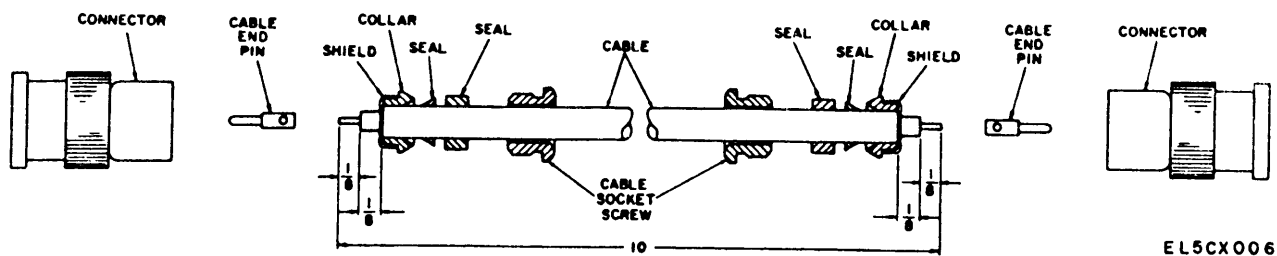

Figure 5-1. Cable assembly CG-1893/U, fabrication diagram.
(fig. 5-1)
shown in figure 5-1. Trim the exterior insulation to the length shown.
e. Install the cable socket screws, seals, and collars on the end of the new piece of rf cable. Roll the shield of the rf cable over the collars as shown in figure 5-1. Trim the shield as necessary to maintain